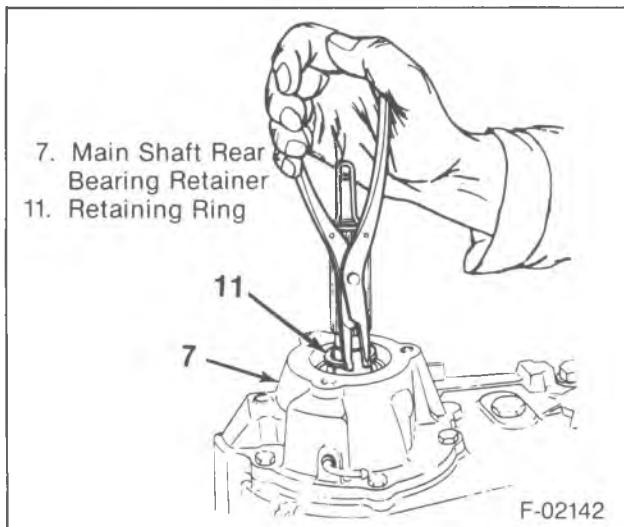

Figure 4—Rear Output Bearing Retaining Ring Removal
6. Extension housing (12).
7. Snap ring (11) for the rear bearing (10) from the main shaft (1). Discard the snap ring (figure 4).
8. Rear retainer attaching bolts (9).